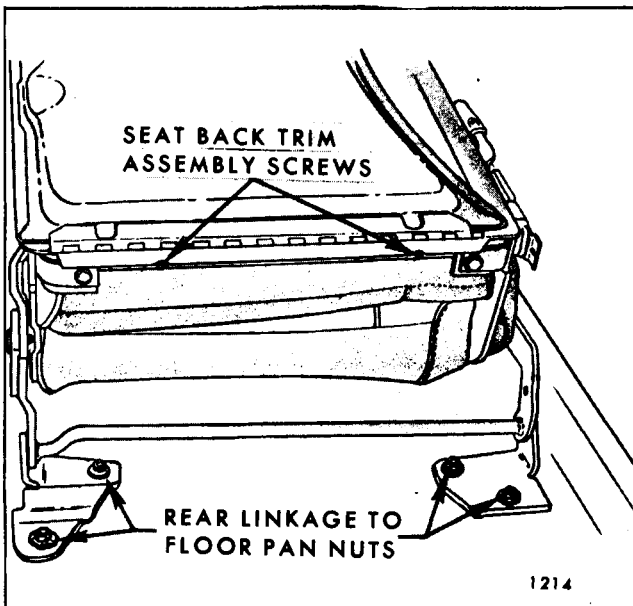

Fig. 14-76-Folding Second Seat Rear Linkage
1. Remove rear door sill plate and turn back floor carpeting sufficiently to gain access to nuts securing folding seat front and rear linkage to floor pan (Figs. 14-76 and 14-77).
3. Remove nut and washer assemblies securing front and rear linkage to floor pan; then, remove seat assembly from body (Figs. 14-76 and 14-77).
2. Remove seat back trim assembly attaching screws (see Fig. 14-76).